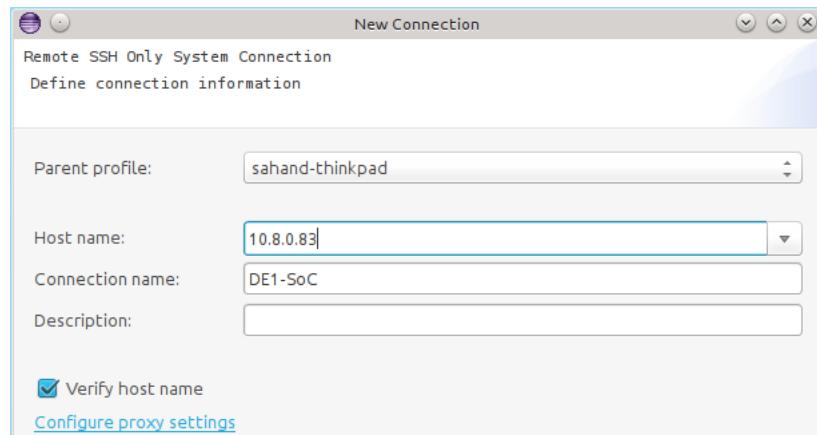

Figure 13-7. New SSH Only Connection
16. Enter “DE1-SoC” as the “Connection name”. You should have something similar to Figure 13-7.